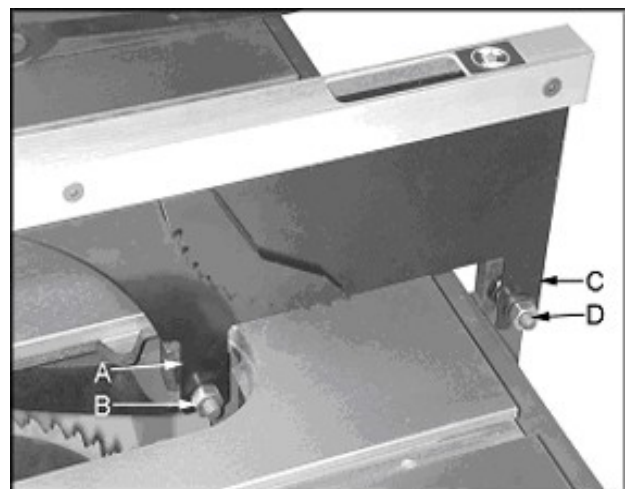

Figure 19
7. Insert front fork of blade guard assembly (A, Figure 19) through opening in the table. The tab is held in place between the flat washer and bracket, see Figure 19. Finger tighten hex nut (B, Figure 19) only at this time.
8. Insert the rear fork of the blade guard assembly (C, Figure 19) into the guard support assembly between the flat washer and shoulder, see Figure 19. Finger tighten hex nut (D, Figure 19) only at this time.